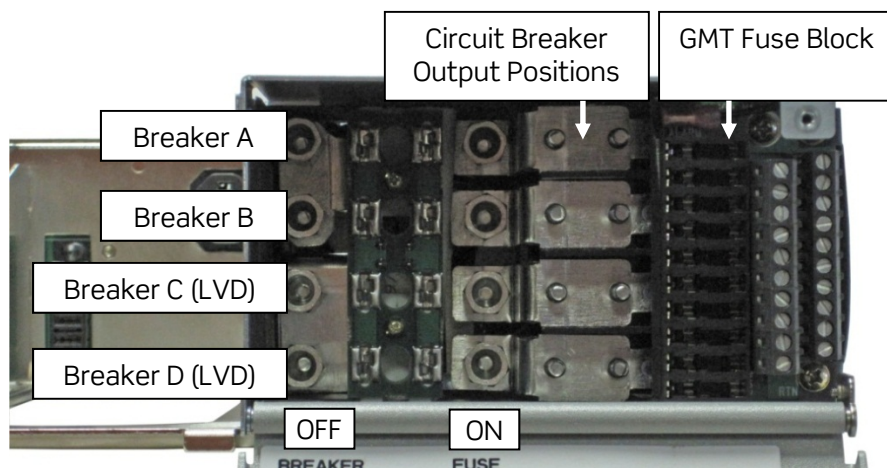

Figure 15 - DC Distribution (Front View)
1. Connect output cables to the connections labeled “circuit breaker output positions” in Figure 15. Use the recommended torque value in Table 8.